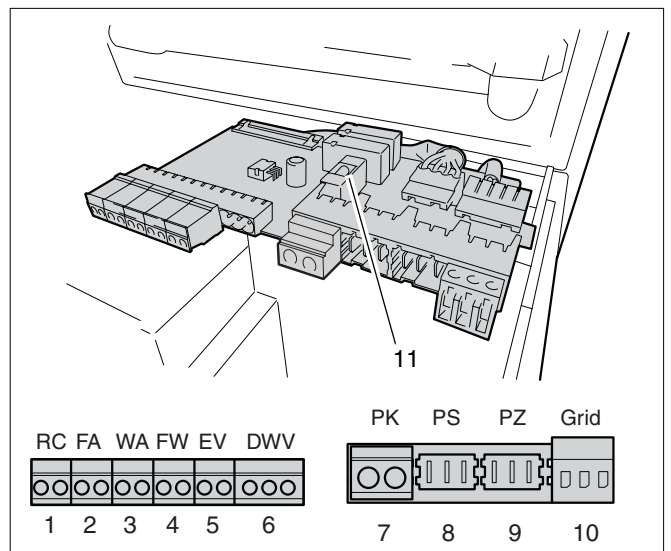

Fig. 92 External connection board
- Use a jumper wire to create a bridging circuit between the two "WA" contacts (see fig. 92, pos. 3).
- Remove the bridge between the two "WA" contacts (see fig. 92, pos. 3).
- Connect the On/Off thermostat directly to the two "WA" contacts of the appliance using a short cable (see fig. 92, pos. 3).
- Connect the modulating control directly to the two "RCxx" contacts of the appliance using a short cable (see fig. 92, pos. 1).